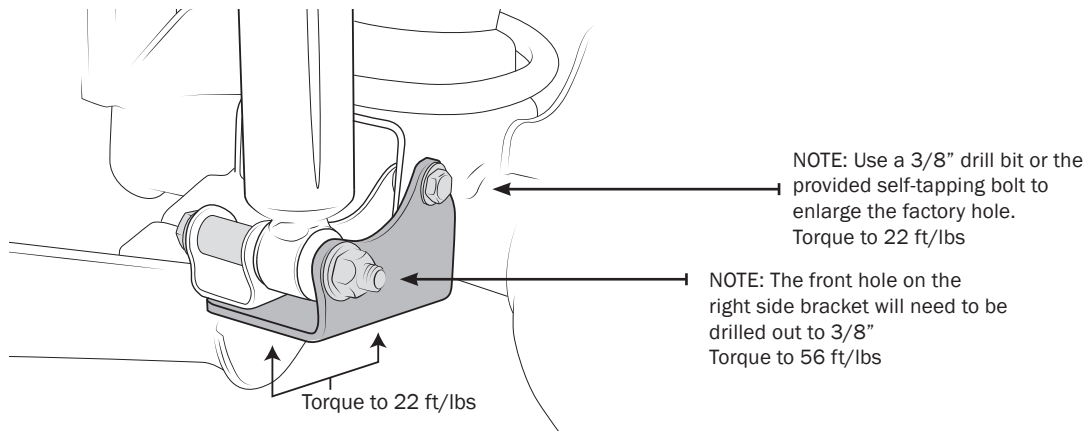

Figure 8
2. Install Shock Doubler brackets on both sides as shown using supplied hardware (Fig. 8).
3. Install shocks in Shock Doubler brackets as shown using supplied hardware (Fig. 8).